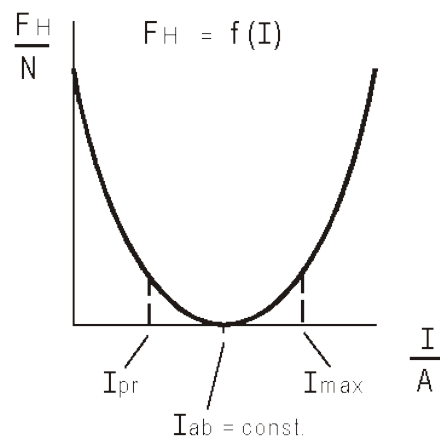

Fig. 3: characteristic
- ²⁾ In order to eliminate the influence of the coil resistance (dependent on the temperature rise) on the residual force we recommend you to drive the solenoid with constant current (see also fig. 3).